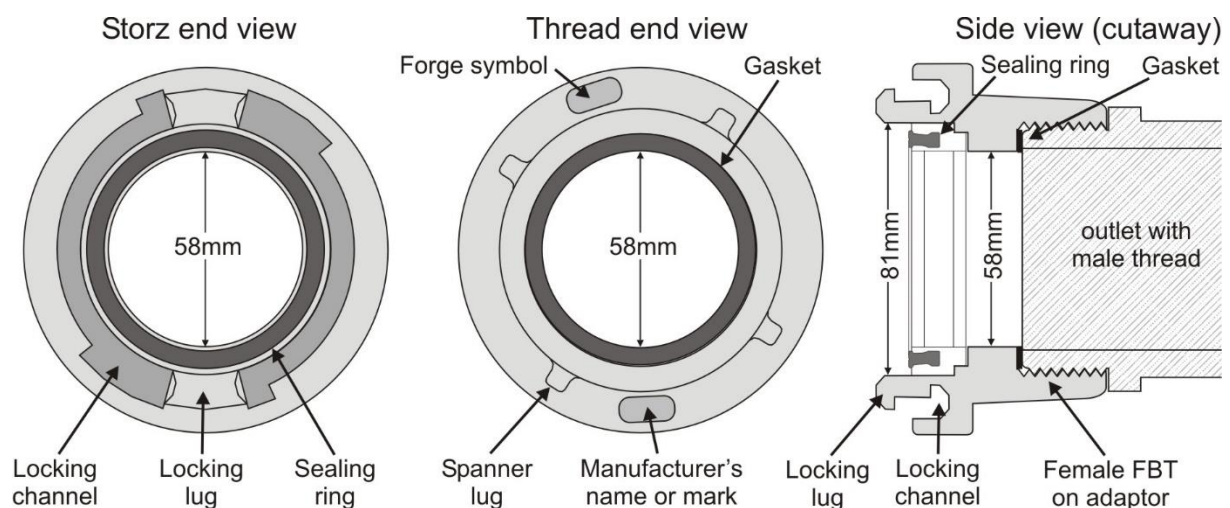

Figure 2 Female FBT Storz adapter
6.2.1 Hose connections on fire hydrant valves (*AS 2419.2*) shall be male FBT semi-permanently fitted with a female FBT Storz adapter (refer to Figure 2).
(c) have a nominal waterway diameter of 58 mm (refer to Figure 2)
(d) have a lug spacing measured from lug to lug of 81 mm (refer to Figure 2)